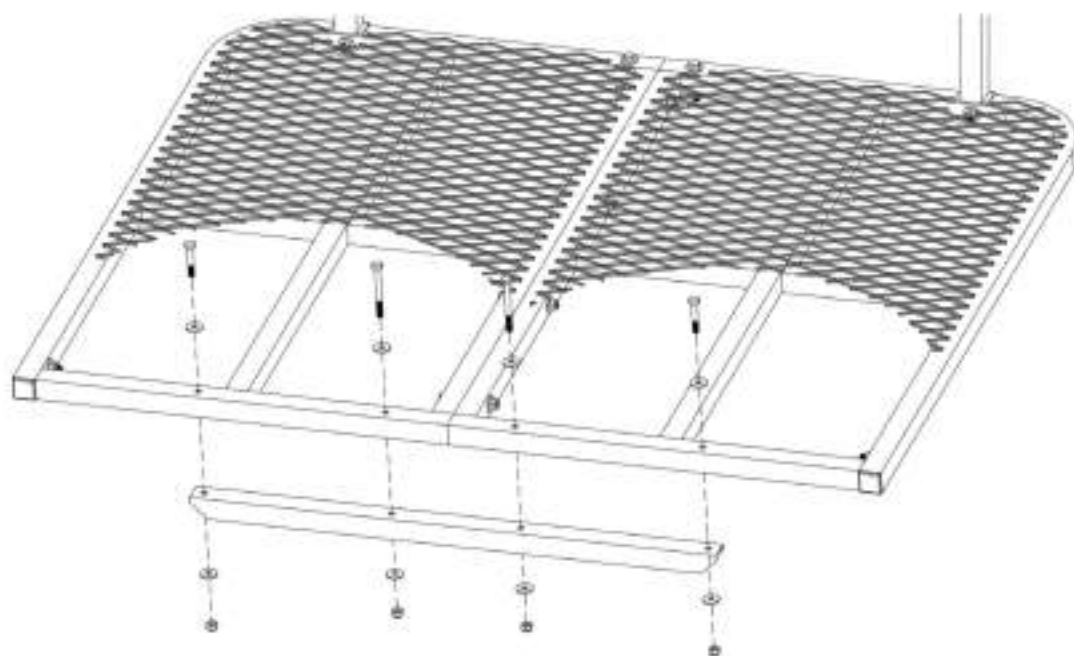

Figure 17
STEP 2: Bolt the platform reinforcement bracket to the bottom of the platform using two (2) $2\frac{1}{2}$ " bolts, two (2) $\frac{1}{4}$ " x $1\frac{3}{4}$ " bolts and by placing one (1) washer under the head of each bolt and one (1) washer under the nuts as shown in Figure 17. Tighten the nuts to 50 pounds.